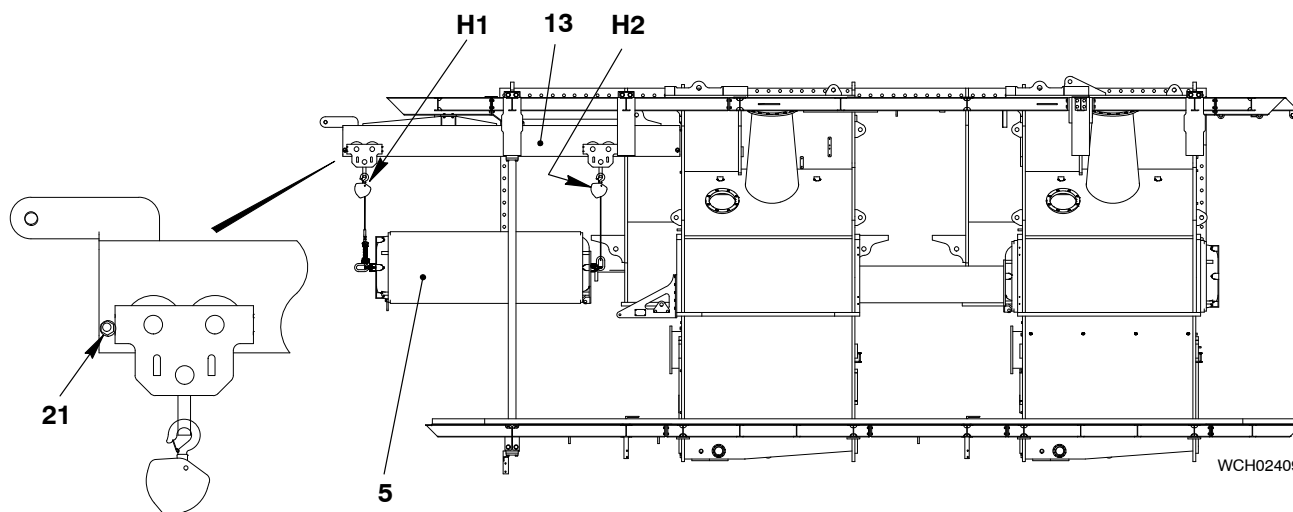

Fig. 6
- 17) Attach the chain block (H2) to the double-chain sling (94666) on the rear of the SAC (5).
- 19) Remove the two safety chains 94663D (see Fig. 6).